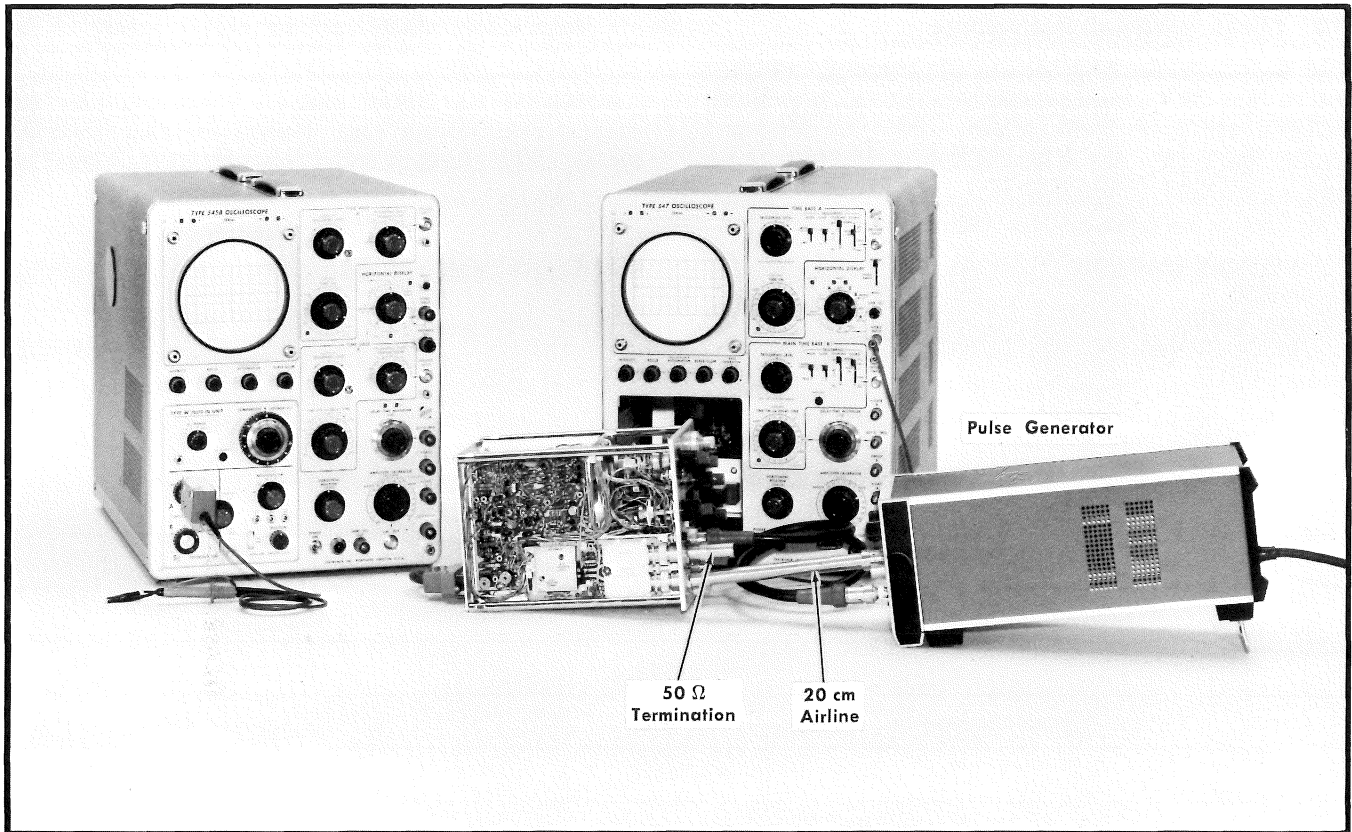

Fig. 7-34. Test equipment setup for step 38.
a. Test equipment setup is shown in Fig. 7-34. Connect the Fast Rise Pulse Generator with the risetime of ≤ 70 ps to the lower THRU SIGNAL CHANNEL 50 Ω connector through a 50 Ω 20 cm Air Line. Connect the 50 Ω Termination to the upper THRU SIGNAL CHANNEL 50 Ω connector.